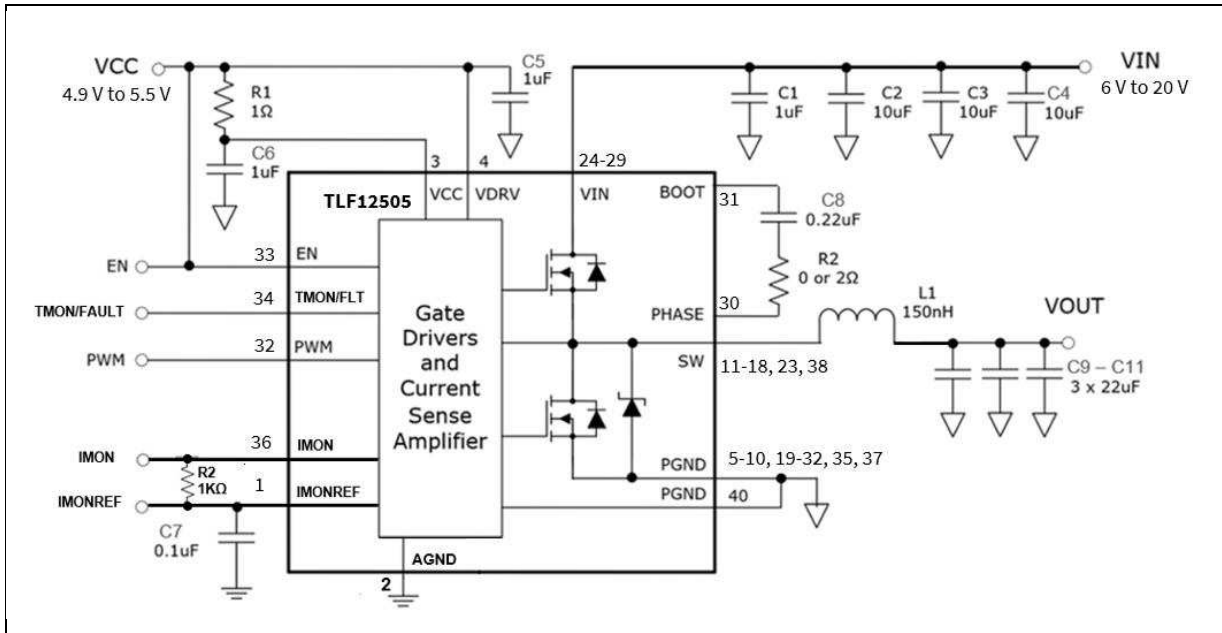

Figure 16 Typical Application Diagram for Single-Phase Voltage Regulator
Single Phase Circuit of Figure 16,  $V_{IN} = 12\text{ V}$ ,  $V_{OUT} = 0.8\text{ V}$ ,  $f_{SW} = 500\text{ kHz}$ ,  $L = 150\text{ nH}$ ,  $V_{CC} = V_{DRV} = 5\text{ V}$ ,  $T_{AMBIENT} = 25\text{ °C}$ , no heat sink, no air flow, 8-layer PCB board of 3.7" (L) x 2.6" (W), no PWM controller loss, no inductor loss, unless specified otherwise.